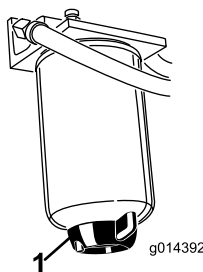

Figure 29
Drain the water or other contaminants from the water separator (Figure 29) daily. Replace the filter canister after every 400 hours of operation.
2. Loosen the drain plug on the bottom of the filter canister (Figure 29).